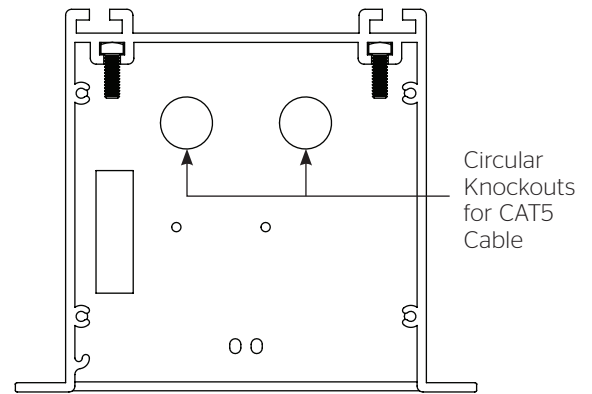

Figure 4
2. Remove a single circular knockout from motor end of case for CAT5 cable needed in the Installation of ViewShare Screen and Roller Assembly (Figure 4).